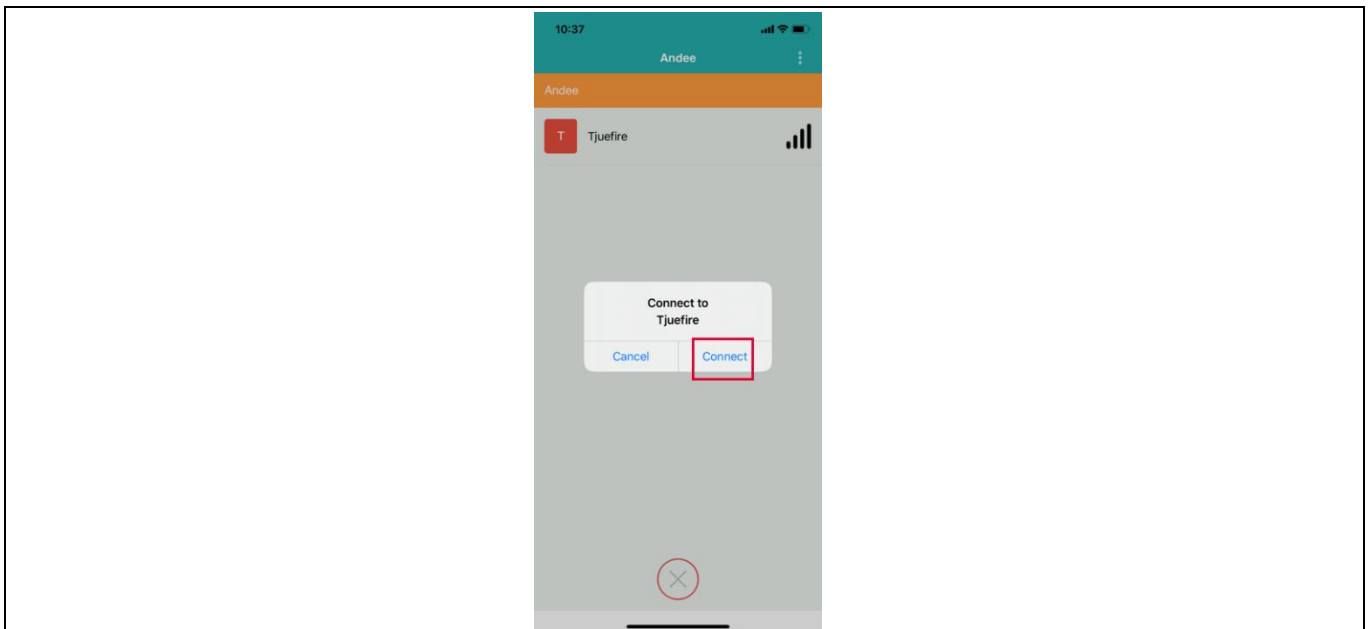

Figure 34 Andee app – connect to device
16. Click “Tjuefire”. When prompted, click “Connect” (Figure 34).